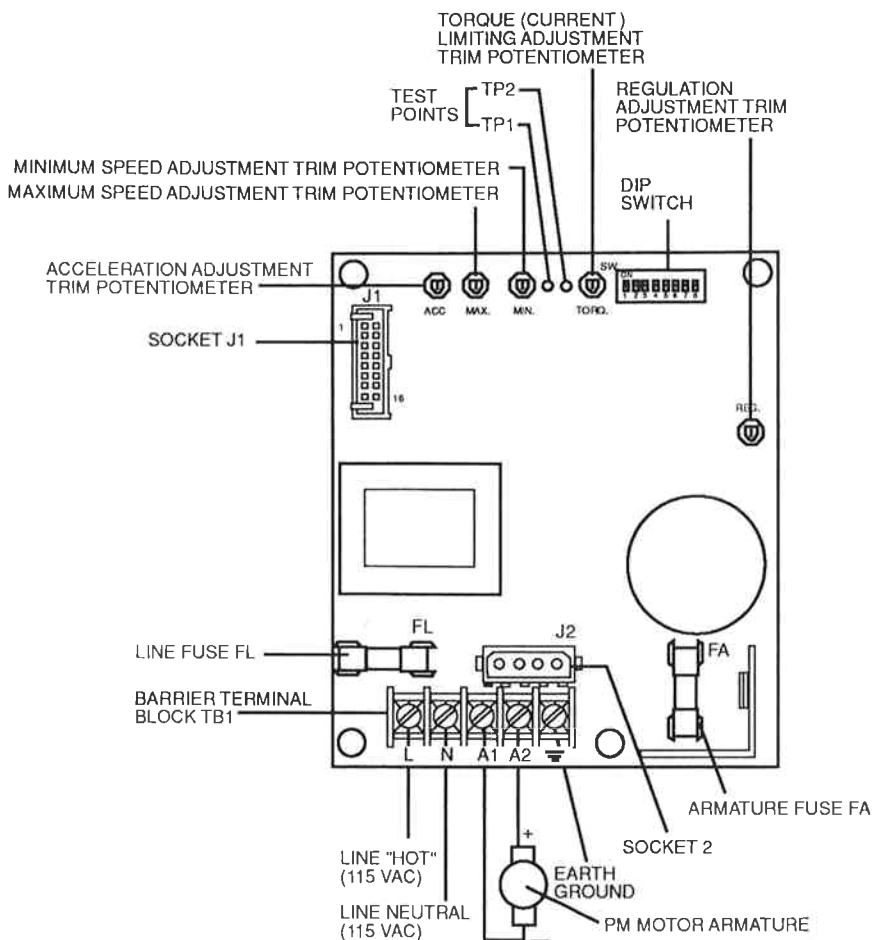

Figure 1
1. Identify the Driver Board as shown in **Fig. 1**, and identify the fuse-holder labeled "**FA**" (Armature Fuse). Refer to **Fig. 2** (or the label on the side of the Type-FPM control) for the proper fuse rating, and select the fuse with this rating from the bag of fuses provided. Then, install this fuse in fuse-holder "**FA**."
2. The line fuse, labeled "**FL**" in **Fig. 1** and on the driver board, has been installed. Its rating is shown on the control's nameplate should it need to be replaced.
3. Next, locate the "**DIP switch**" on your control's driver board (**Fig. 1**). There are eight switch levers (numbered 1 through 8) on the "**DIP switch**." The "ON" positions for these levers are clearly marked on the "**DIP switch**." **Fig. 2** identifies which of the eight levers should be set in the "ON" position, depending on the control and motor or gearmotor selected. Locate your control and motor type in **Fig. 2** and then set only those levers specified in **Fig. 2** to the "ON" position. Be certain that the remaining levers on the "**DIP switch**" are in the "OFF" position. An insulated alignment tool may be used to adjust the switch settings.
4. Referring to **Fig. 1**, identify the **barrier terminal block (TB1)** on your control's driver board. Connect the ground wire and motor armature wires to the **terminal block**. Finally, attach the 115VAC power line to the **terminal block**. **DO NOT** connect the 115VAC power line to an external power source at this time. (This should always be the very last connection you make.)
* In **Fig. 1**, the armature is connected for clockwise (CW) rotation. For counter-clockwise rotation (CCW), simply reverse the connections at **A1** and **A2**. The connections at **A1** and **A2** can be reversed with the Electronic F-B-R Board or mechanical F-B-R switches.
The control and motor must be securely and adequately grounded, as shown in *Fig. 1*. Failure to ground properly may result in serious injury.